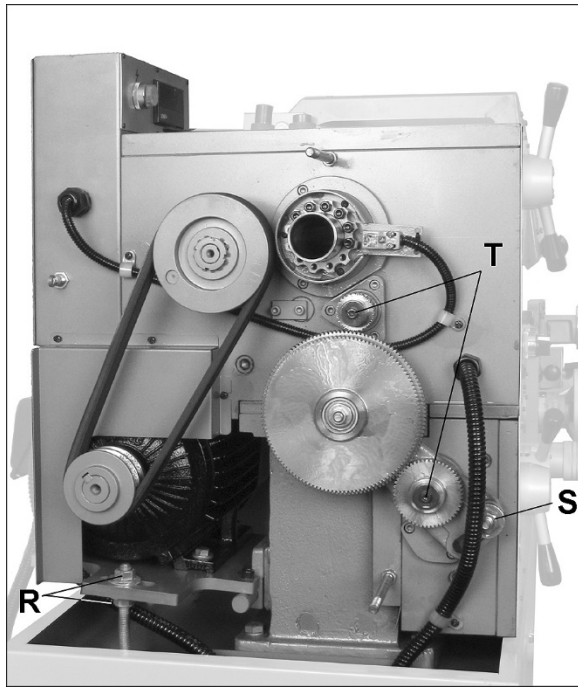

Figure 11-8
Remove end cover. Loosen bottom nut and turn top nut (R, Figure 11-8) to push motor downward to increase tension on belt. Retighten bottom nut.
3. Loosen hex nut (S, Figure 11-8) and move quadrant out of the way.
4. Loosen socket head cap screw (T) and remove gear(s). Select replacement gears to match data on feed and thread chart. Thoroughly clean new gears before installing.
5. Move quadrant so that large gear meshes with the smaller gears and tighten nut (S) to secure in place. Note: Make sure there is backlash of 0.002" – 0.003" between gears. Setting the gears too tight will cause excessive noise and wear.